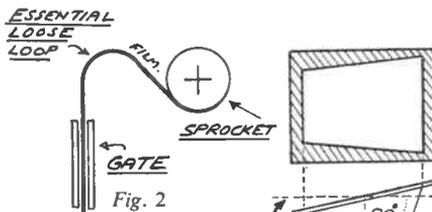

Fig. 2
(3) **Continuous jumping,** and a sense of heavy going. This is caused by the loss of the 'top loop', or by having threaded-up with a much too small top loop. In threading, the film comes from the top sprocket roller and then arches loosely before entering the gate (Fig. 2), which ensures that there is always enough film to allow for the next downward drag of the claw. If this top loop is too small, if only slightly, the downward drag just tightens the film up and causes the jerking. This trouble can damage a film badly, for it imposes a too great strain on the sprocket holes, the claw tearing at them instead of merely pulling the film down. The loss of the top loop can be through too tight threading to start with, or it can be gradually lost through occasional slipping. If in any doubt, always stop and check for a good top loop.